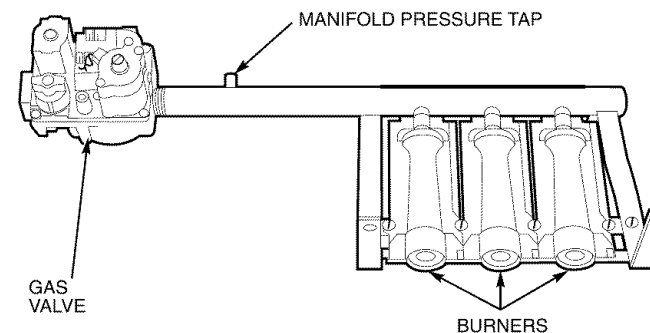

Fig. 65 — Burner Tray Details
10. Slide the burner tray out of the unit (Fig. 65).